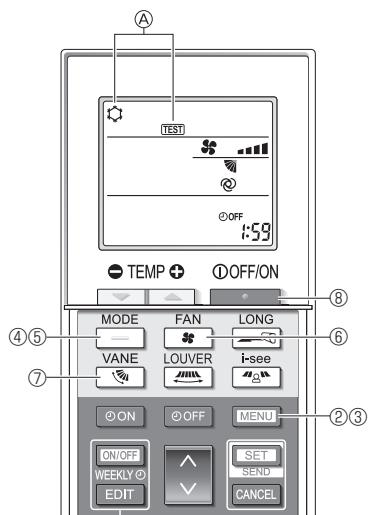

Fig. 7-9
- ① Turn on the power to the unit at least 12 hours before the test run.
- ② Press the **[MENU]** button for 5 seconds. (Fig. 7-9)
Ⓐ [TEST] and the current operation mode are displayed. (Fig. 7-9)